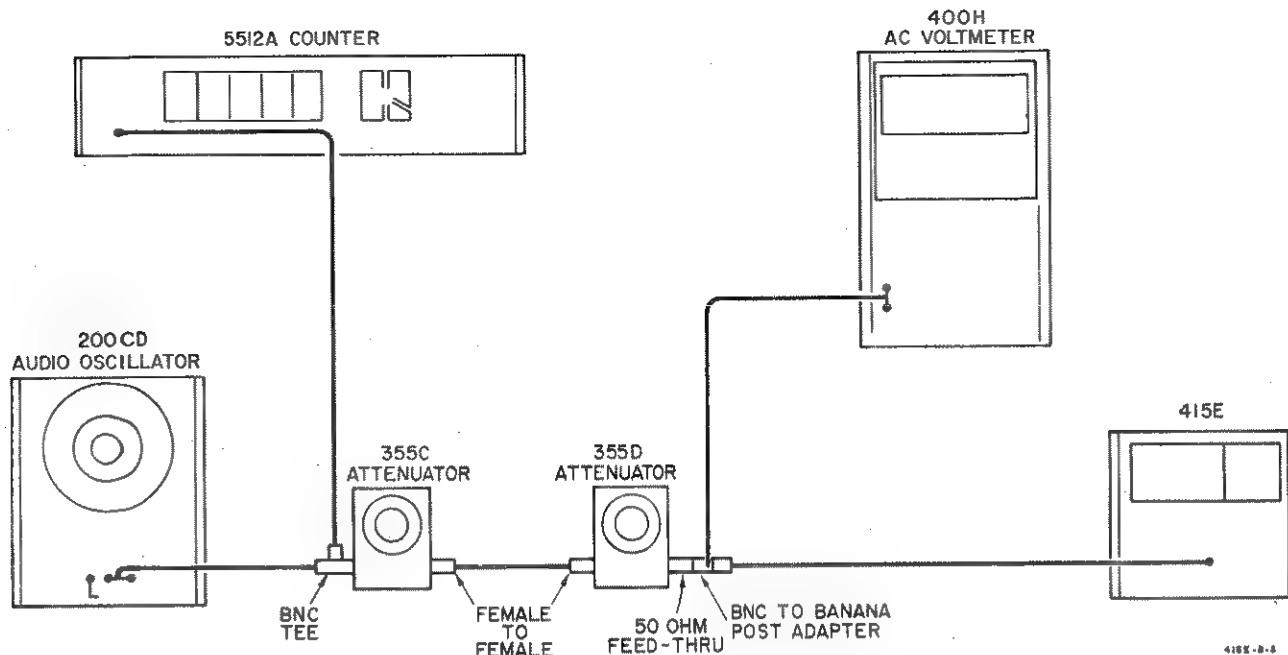

Figure 5-1. Test Set Up
a. Connect equipment as shown in Figure 5-1 (omit 355D from setup).
a. Connect 415E as shown in Figure 5-1 (omit Counter and AC Voltmeter).
<p>Procedure.</p> <ol style="list-style-type: none"> <li>Connect equipment as shown in Figure 5-1 (omit 355D and AC Voltmeter).</li> <li>Set 415E to LOW, ON, NORM, 0 (RANGE-DB), with GAIN and VERNIER full clockwise.</li> <li>Turn BANDWIDTH full counterclockwise.</li> <li>Tune Oscillator to peak 415E.</li> <li>Switch 415E EXPAND to 0 and retune Oscillator to be sure that 415E is peaked at center frequency.</li> <li>Adjust GAIN control for a 0 db meter reading.</li> <li>Tune Oscillator slightly off tuned frequency causing meter reading to drop to exactly 1.5 db and record Counter reading.</li> <li>Tune Oscillator back to tuned frequency and then off to other side of tuned frequency causing meter reading to drop to exactly 1.5 db. Record Counter reading.</li> <li>The difference between the readings of steps g and h should be 15 cps or less.</li> <li>Turn BANDWIDTH full clockwise and retune OSCILLATOR for peak 415E meter reading.</li> <li>Repeat steps f, g, h above.</li> <li>The difference between the recorded frequency readings, this time, should be 130 cps or greater.</li> </ol>	<p>Readings</p> <p>Act - Act = Difference (&lt; 15 cps)</p> <p>966 953 = 13</p> <p>Act - Act = Difference (&gt; 130 cps)</p> <p>1028 896 = 132</p>